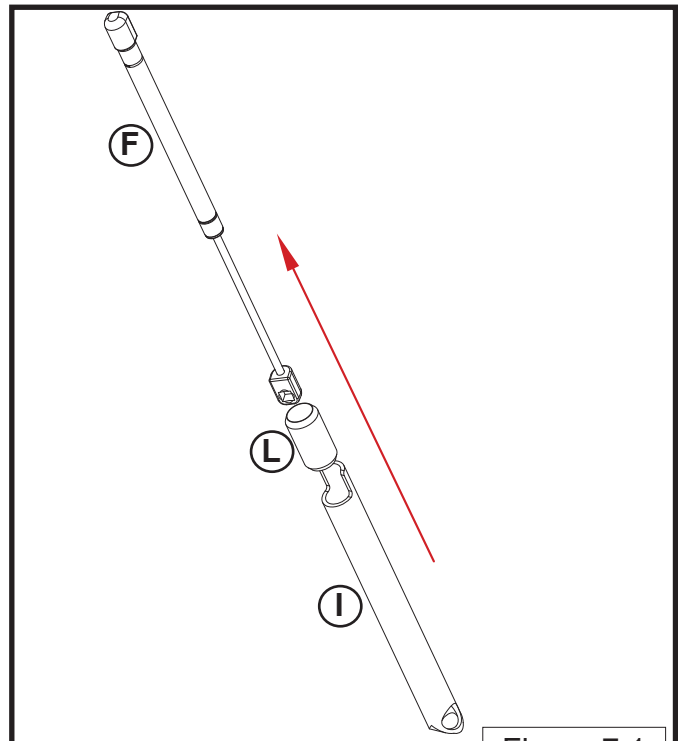

Figure 7.1
- Position the Gas Spring Lock (I) and Sure Lock Sleeve (L) over the small rod end of the Gas Spring (F) with the tab of the lock on top (Figure 7.1)